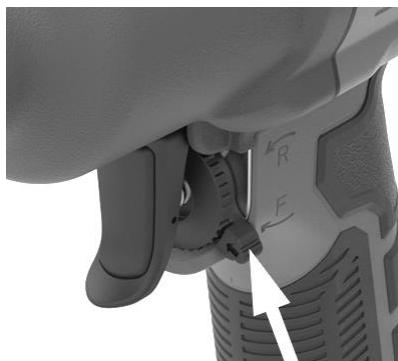

Fig. 2: Setting the Rotation Direction
- For tightening bolts, press the switch (see Fig. 2) located behind the trigger to position F for right-hand rotation.
- For loosening bolts, press the switch to position R. The device switches to left-hand rotation (counterclockwise, Fig. 2).